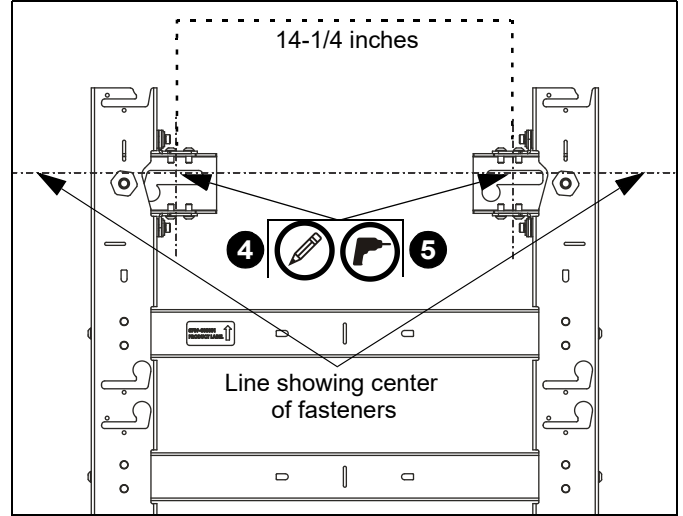

Figure 6
4. Mark mounting holes in two top mounting slots along the horizontal line marked in Step 3 of **Assessing the Installation Site** section. (See Figure 6)
NOTE: The mounting holes are 14-1/4" apart on-center. (See Figure 6)
5. Drill two pilot holes (see Table 1 for size) at each location marked in Step 4 (See Figure 6) and follow fastener information (appropriate for wall type) located in Table 1.